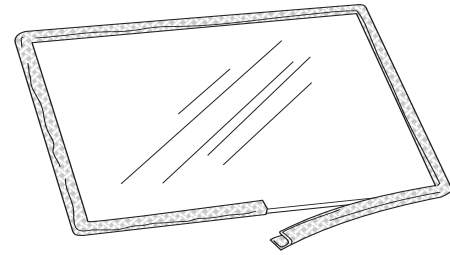

Figure 39.
3. Beginning at the center of one of the long sides, wrap the new tadpole gasket material around the new glass pane, pressing the adhesive firmly against the glass surface. See fig. 39.